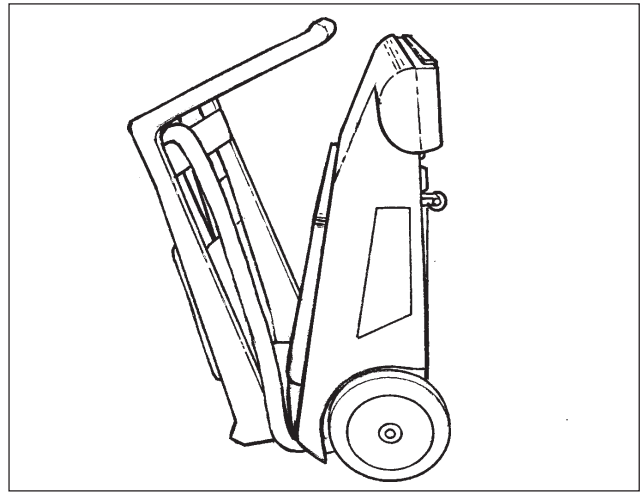

Figure 1
1. If the vacuum is in its upright position (figure 1), raise the handle while supporting the vacuum, then slowly lower the vacuum to the floor.